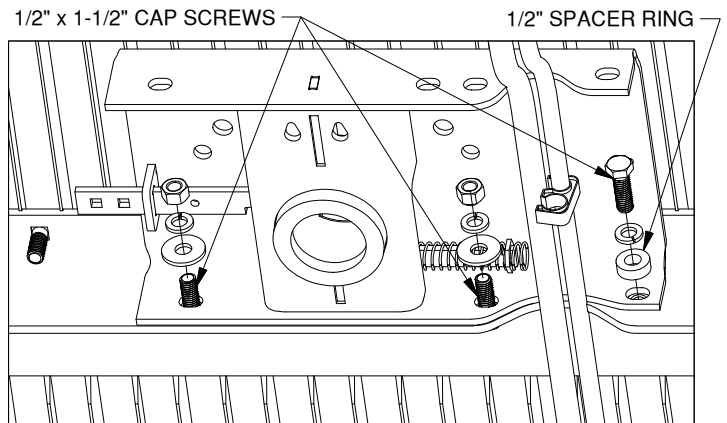

Figure C5: View looking under center section.
4. **Attach the center section.** Retrieve three 1/2" x 1-1/2" cap screws, two 1/2" flat washers, three 1/2" split lock washers, two 1/2" finish nuts and the 1/2" spacer ring. Slide the center section forward. Insert two 1/2" cap screws through the front of the cross member and into the center section. Use the washers and nuts to secure the center to the cross member. Insert the remaining 1/2" cap screw into the threaded bushing with the 1/2" spacer ring and a 1/2" split lock washer, see Figure C5. Do not fully tighten hardware at this time.